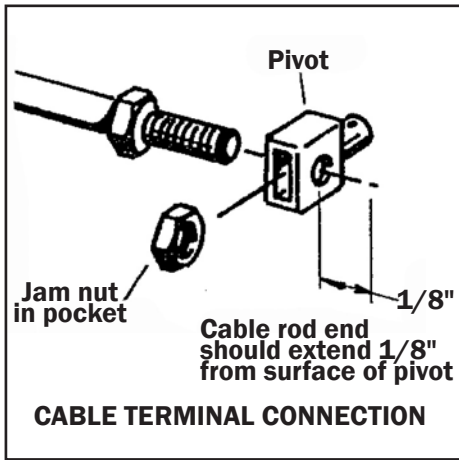

Figure 3.
STEP 1. Attach the Pivot to the end of the Shift cable, as shown in Figure 3.